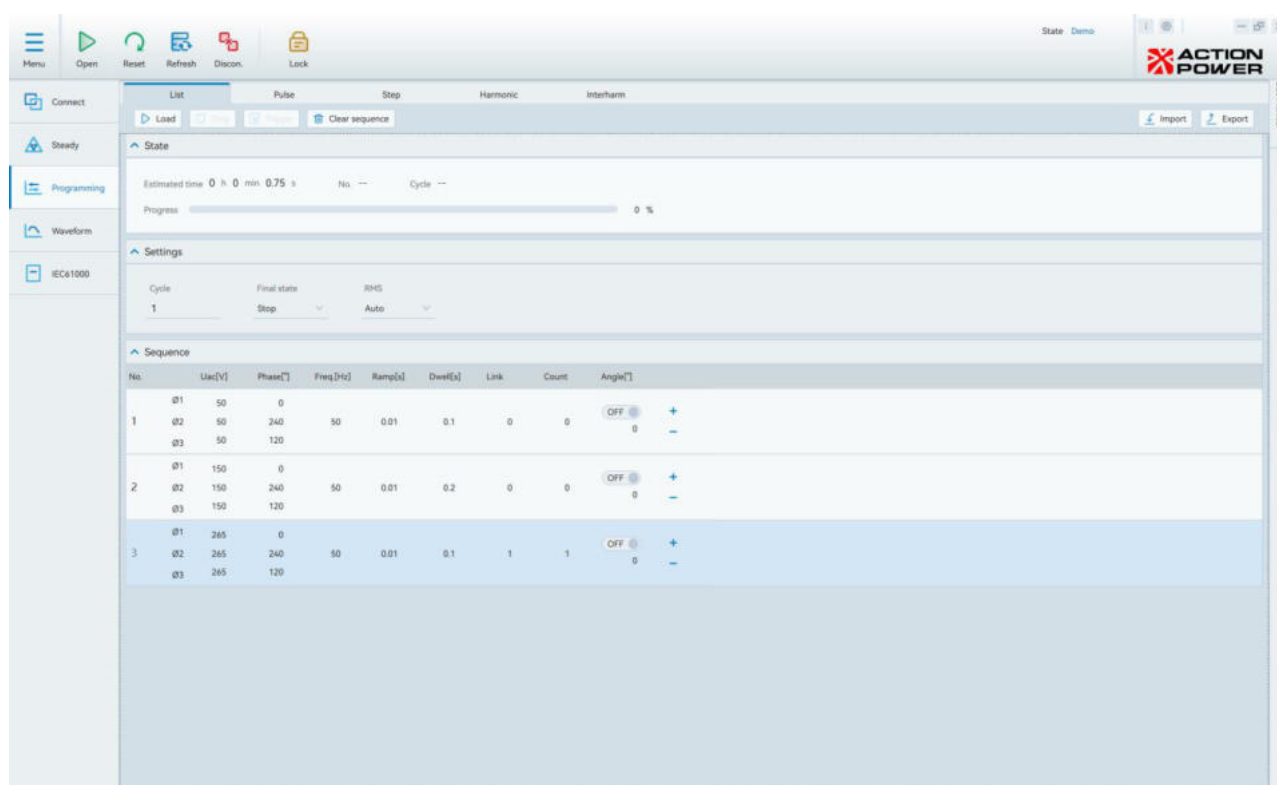
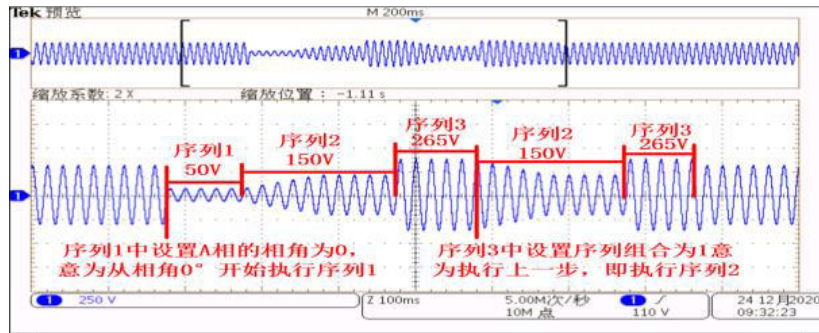

Figure 6.2.2 Schematic of Transient List Configuration
Figure 6.2.3 Actual waveform diagram of transient list
- Example: Select AC for the coupling mode and three-phase synchronous output. The transient list configuration is shown in Figure 6.2.2, with the corresponding waveform in Figure 6.2.3.